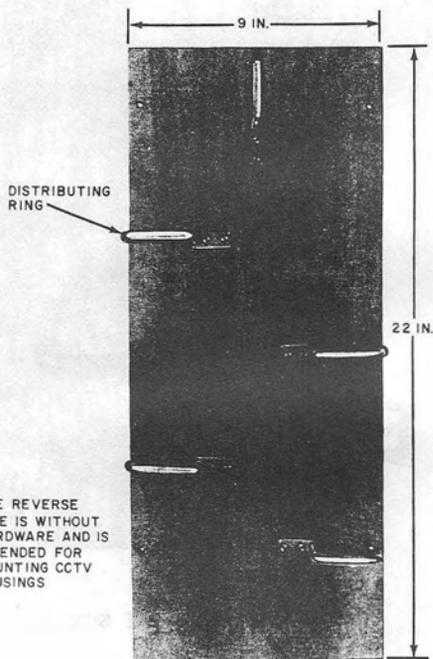

Fig. 9—G Backboard (for LD10/42 Cable Closure)
- (a) G Backboards are used with LD10/42 Cable Closures and H Backboards are used with LD6/42 Cable Closures (Fig. 9 and 10, respectively): Used for CATV or joint CATV and telephone installation. ♦ The G and H Backboards are constructed of wood. One side of each backboard is provided with hardware for telephone installations. The other side is free of hardware and may be used to mount various types and sizes of CATV equipment. If the installation is not jointly used with telephone facilities, the hardware can be removed from the telephone side of the backboard to provide additional space for CATV equipment. See Section 641-270-201 for use of these backboards.